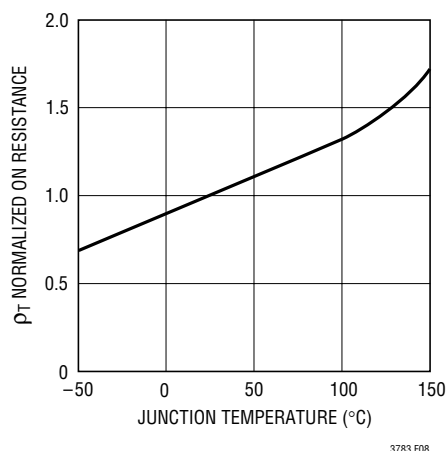

Figure 8. Normalized RDS(ON) vs Temperature
The  $\rho_T$  term accounts for the temperature coefficient of the RDS(ON) of the MOSFET, which is typically 0.4%/°C. Figure 8 illustrates the variation of normalized RDS(ON) over temperature for a typical power MOSFET.